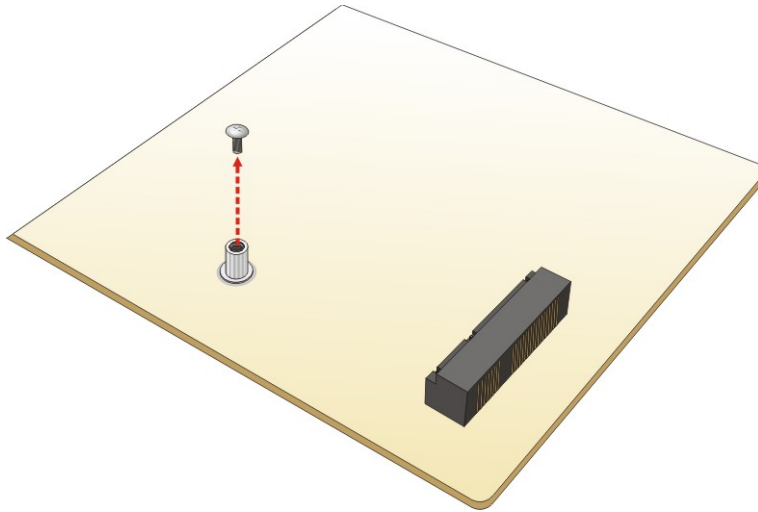

Figure 3-6: Removing the Retention Screw
- Step 3:** Remove the retention screw as shown in Figure 3-6.